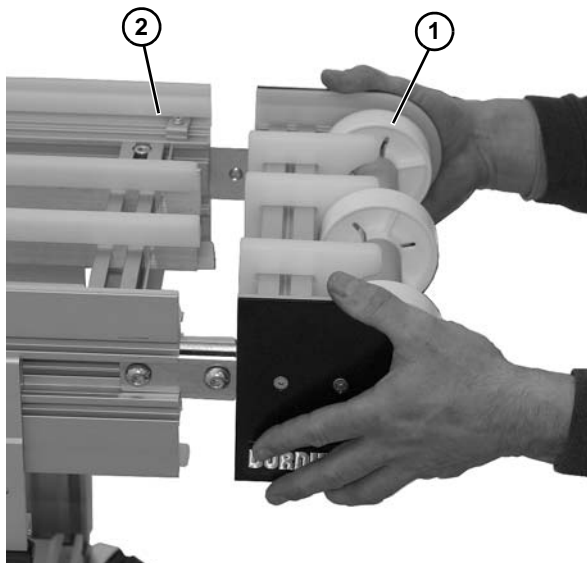

Figure 81
3. Remove the idler tail assembly (**Figure 81, item 1**) from the frame (**Figure 81, item 2**).